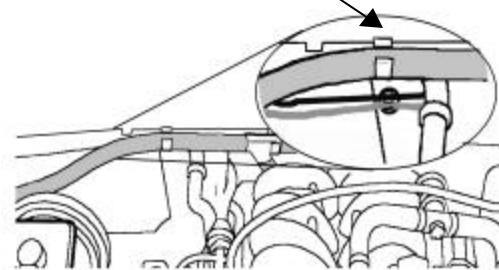

Figure 3
3. Place the plastic "Y" protector into the center clip. (Figure 3)